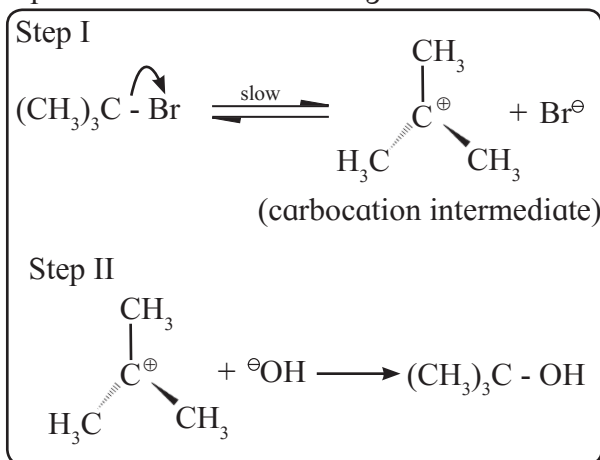

Fig. 10.5 : S_N1 mechanism
It can be seen in this reaction that concentration of only substrate appears in the rate equation; concentration of the nucleophile does not influence the reaction rate. In other words, tert-butyl bromide reacts with hydroxide by a two step mechanism. In the slow step C-X bond in the substrate undergoes heterolysis and in the subsequent fast step the nucleophile uses its electron pair to form a new bond with the carbon undergoing change. This S_N1 mechanism is represented as shown in Fig. 10.5.
- When S_N1 reaction is carried out at chiral carbon in an optically active substrate, the product formed is nearly racemic. This indicates that S_N1 reaction proceeds **mainly** with **racemization**. This means both the enantiomers of product are formed in almost equal amount. Racemization in S_N1 reaction is the result of formation of planar carbocation intermediate (Fig. 10.5). Nucleophile can attack planar carbocation from either side which results in formation of both the enantiomers of the product.
S_N1 : A planar carbocation intermediate is formed in S_N1 reaction. It has no steric crowding. Bulky alkyl groups can be easily accommodated in planar carbocation. See (Fig. 10.5). As a result S_N1 mechanism is most favoured in tertiary halides and least favoured in primary halides. (Formation of planar carbocation intermediate results in a